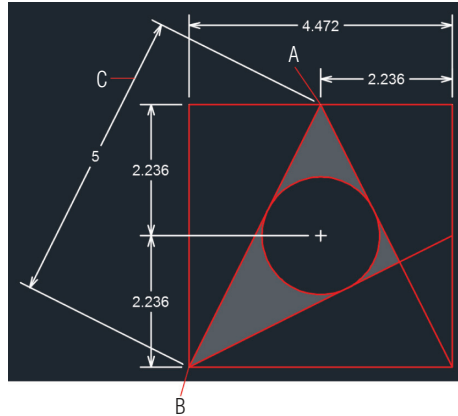

FIGURE 11.15 Adding an aligned dimension
7. Click points A, B, and C shown in Figure 11.15. An aligned dimension appears, parallel to the angled line.